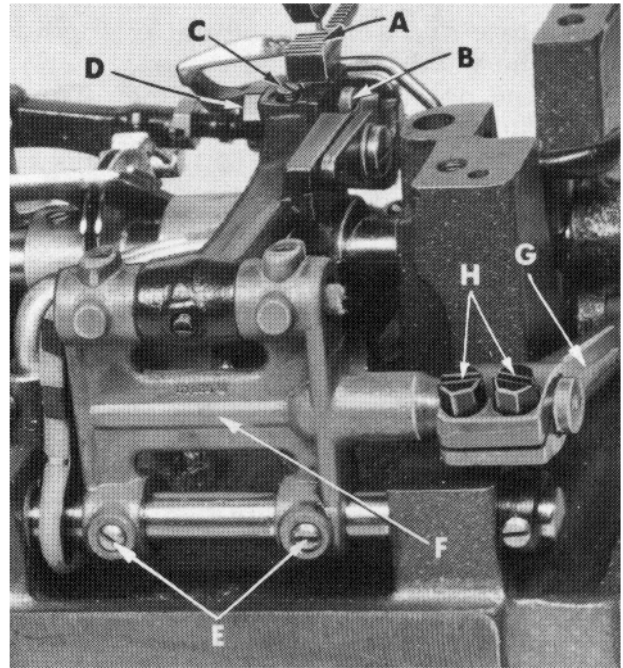
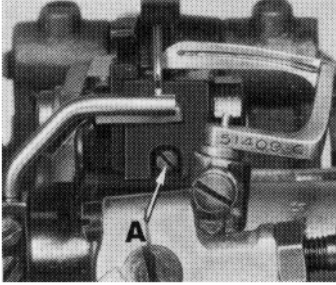

Fig. 4
Fig. 5
Set the feed dog (A, Fig. 4) in the throat plate so there is equal clearance on all sides. See that the tips of the teeth extend 1/2 to 1 full tooth above the throat plate and are parallel with the throat plate at high point of travel. Height can be set by loosening feed dog attaching screw (B) and adjusting feed dog supporting screw (C). Parallelism can be set by loosening nut (D) and rotating feed dog holder adjusting screw (A, Fig. 5), as required and retighten nut. Side clearance can be set by loosening screws (E, Fig. 4) and moving feed rocker (F) to the right or left, as required.